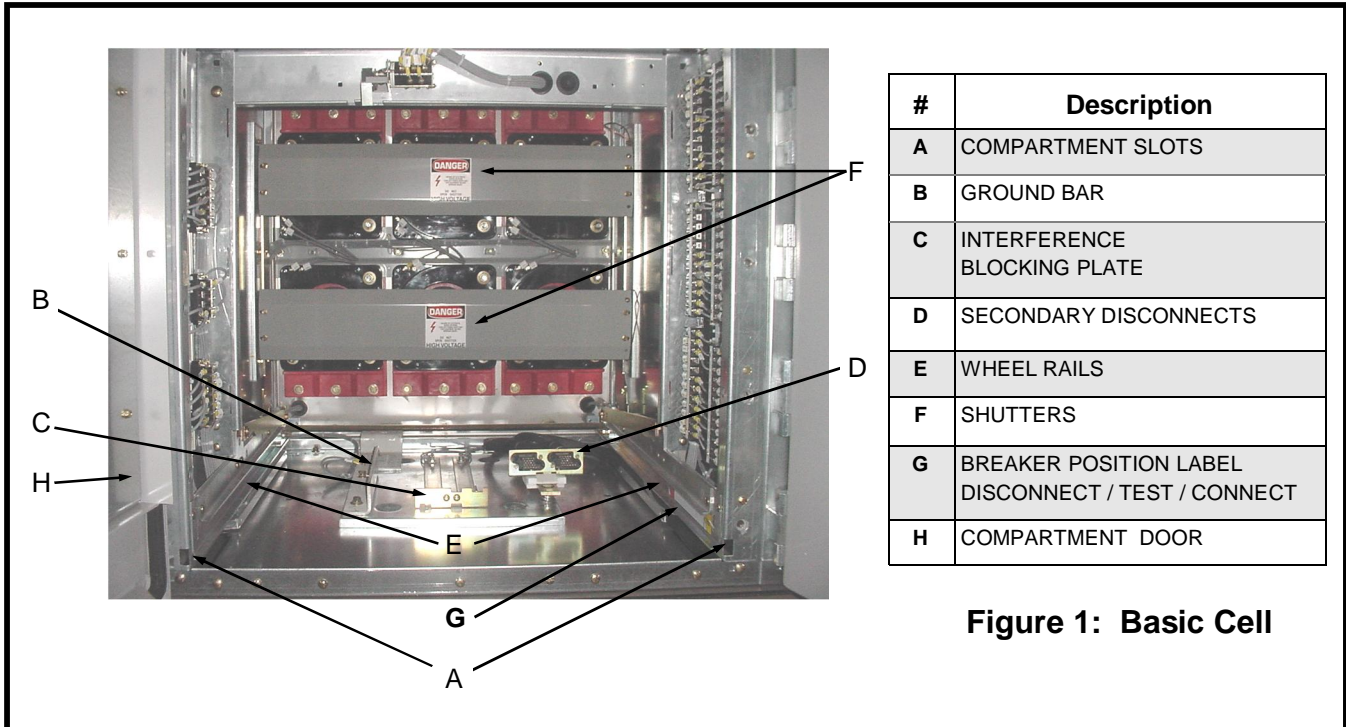

Figure 1: Basic Cell
INSERTION: (Refer to [Figure 1] for compartment detail, [Appendix A] for breaker detail)
REMOVAL: (Refer to [Figure 1] for compartment detail, [Appendix A] for breaker detail)
DISCONNECT THROUGH TEST:(Refer to Appendix A and Fig. 1)
TEST THROUGH CONNECT: (Refer to Appendix A and Fig. 1)
CONNECT THROUGH TEST: (Refer to Appendix A and Fig. 1)
- B. The circuit breaker position is also indicated by a decal—see Fig 1. Item G